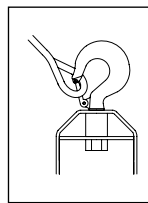

Figure 1
- Never use a hook that is worn beyond the limits shown in Figure 1.
- Remove from service any hook with a crack, nick, or gouge. Hooks with a nick or gouge shall be repaired by trained personnel by grinding lengthwise, following the contour of the hook, provided that the reduced dimension is within the limits shown in Figure 1. Contact CurrentTools to evaluate any crack.
- Always make sure hook supports the load. The latch must never support the load. (See Figure 1 & 2.)